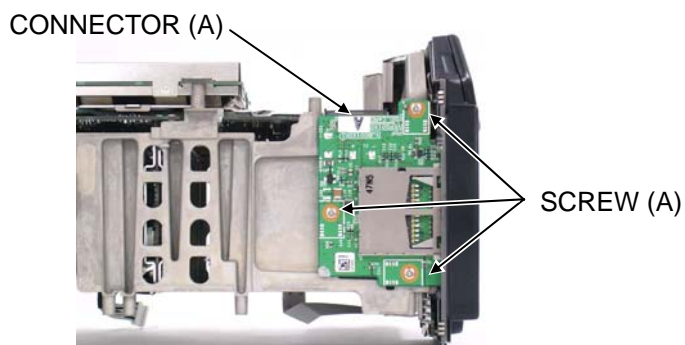

Figure 16-1
5. Unscrew the 3 screws (A) as shown in figure 16-1.
6. Disconnect the connector (A) combined with DIGITAL MAIN P.C.B. and remove the SD CARD P.C.B. as shown in figure 16-1.